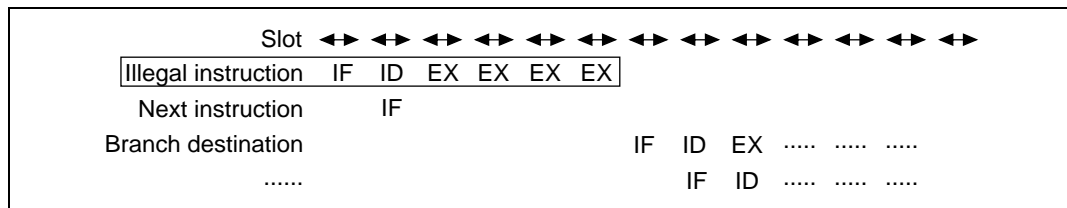

Figure 10.67 Illegal Instruction Exception Processing Pipeline
The illegal instruction is received during the ID stage of the instruction and everything after the ID stage is replaced by the illegal instruction exception processing sequence. The pipeline has six stages: IF, ID, EX, EX, EX, and EX (figure 10.67). Illegal instruction exception processing is not a delayed branch. In illegal instruction exception processing, an overrun fetch (IF) occurs. Whether there is an IF only in the next instruction or in the one after that as well depends on the instruction that was to be executed. In branch destination instructions, the IF starts from the slot following the final EX in the illegal instruction exception processing.